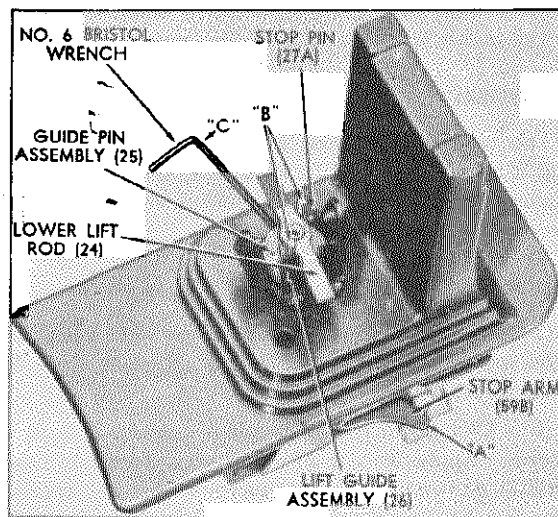

FIGURE 5. RE-POSITIONING GUIDE PIN ASSEMBLY
- (e) Set the point of the push-off arm (5) in light contact with and slightly below the center of the 12-inch set-down point adjusting screw (10). Now tighten both of the push-off arm set screws.
9. RE-POSITIONING GUIDE PIN ASSEMBLY (Figure 5).
- (d) With the thumb of the left hand, push the stop arm (59B) as indicated at point "A" (figure 5) against the riser plate motion bracket (60A) and upward toward the base (27).
(f) Maintain these positions as well as that of the stop arm (59B) of the trip linkage assembly (step d). Now press down on the guide pin assembly (25) as indicated at points "B" (figure 5) with the index finger of the right hand so as to leave very little play between the lift guide assembly (26) and the die cast base (27), and tighten the set screw in the guide pin assembly with the thumb and second finger of the right hand. While tightening this set screw, exert pressure on the Bristol wrench in a counterclockwise direction as indicated at "C" (figure 5). Then tighten the other set screw.